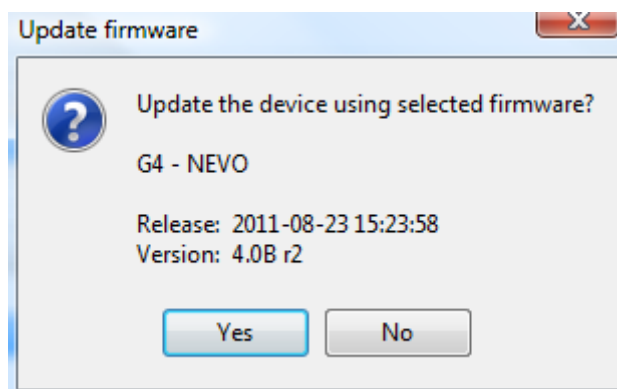

Fig. 3.8 Starting update confirmation window.
- Choose update file and press “Update” button. First the window with question about saving current settings to a file will appear. After saving or choosing not to save the update confirmation window will appear (Fig. 3.8). To start actualization process press “Yes”.